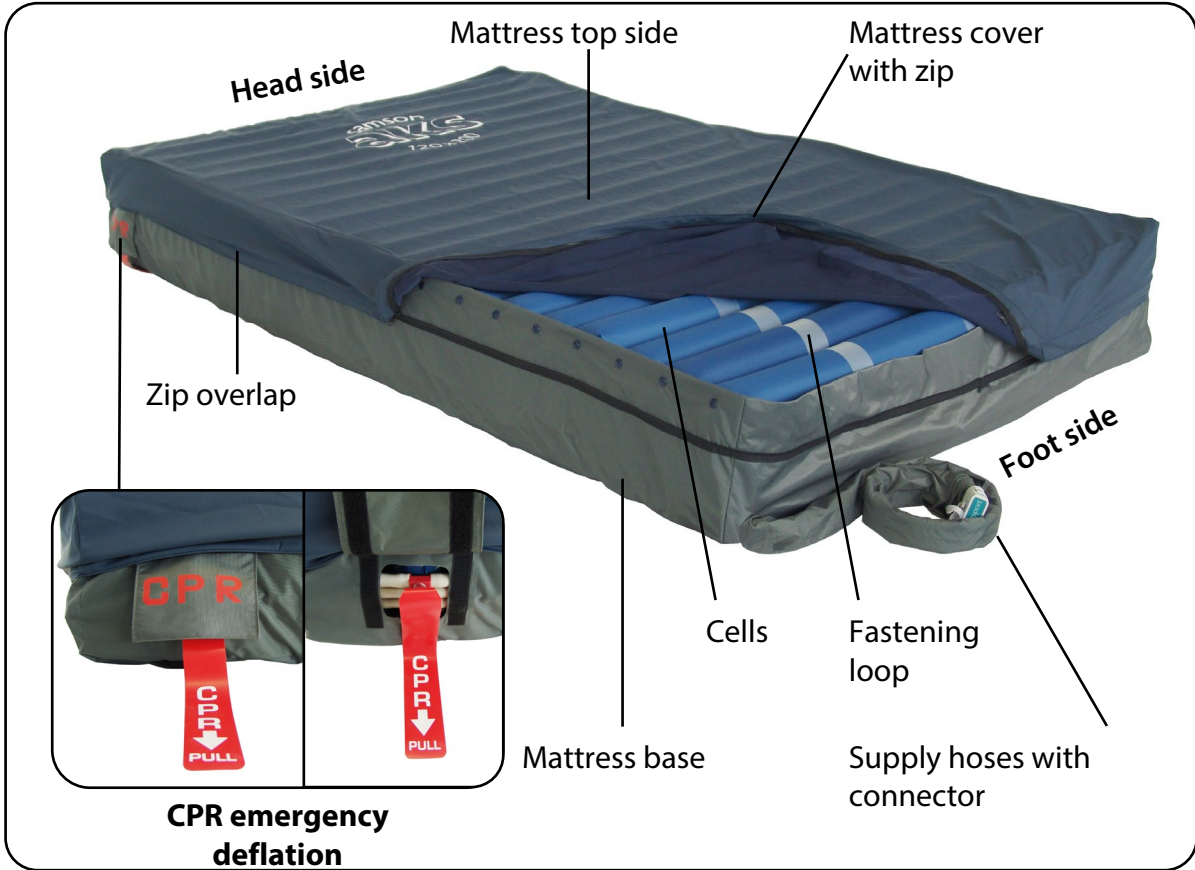

Fig. 5.03 - Top side of alternating pressure mattress
11. Check whether the CPR stopper on the alternating pressure mattress is completely closed (Fig. 8.13.02). The end plugs are located on the right-hand side at the head end of the alternating pressure mattress (Fig. 5.03).